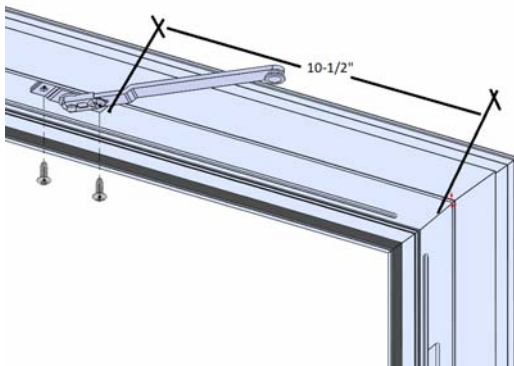

Figure 1:
- Place the arm inside the track and fasten the arm to the frame (provided shim should be between the arm and the frame) with two (2) #10 PHP-B 0.5" screws (Figure 1).